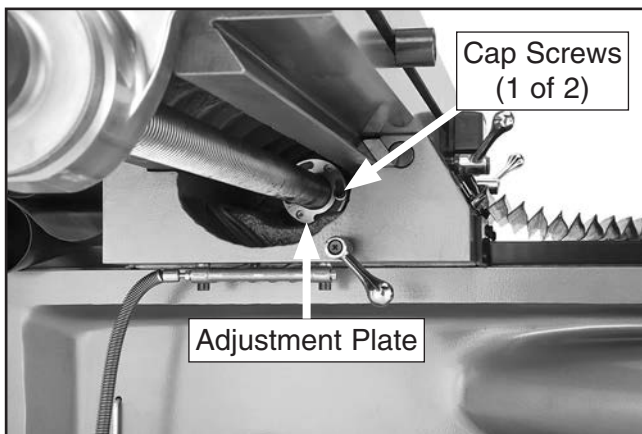

Figure 82. X-axis leadscrew nut cap screws and adjustment plate (viewed from underneath left side of table).
2. Loosen two cap screws on X-axis leadscrew nut accessed from underneath left side of table (see **Figure 82**).
3. Rotate adjustment plate on leadscrew nut (see **Figure 82**) in small increments, then check amount of backlash.